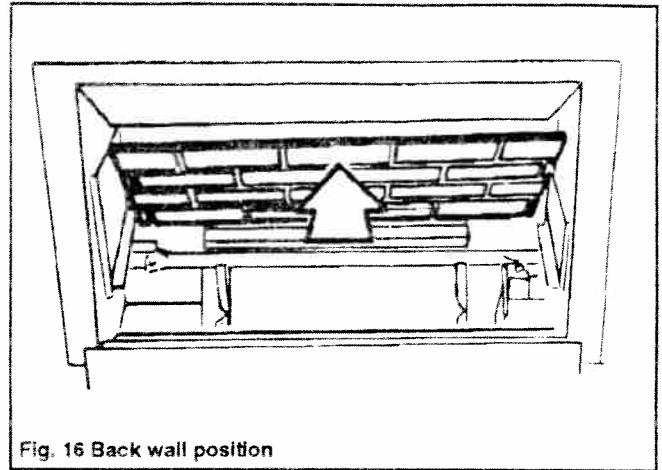

Fig. 16 Back wall position
15.1 Place the ceramic back wall in position centrally at the back of the firebox. It must rest on the metal ledge at the back of the firebox (see figure 16).